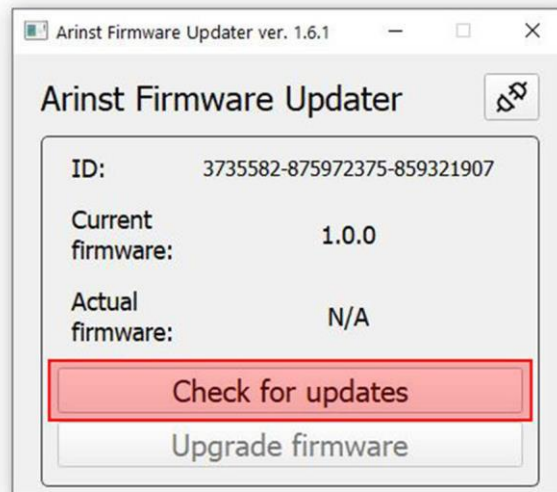

Figure A2.5 - The loader is connected to the device
2.7. After connecting to the device, its ID and firmware version will be determined. In addition, the **Check for updates** button will be active (Figure A2.5).